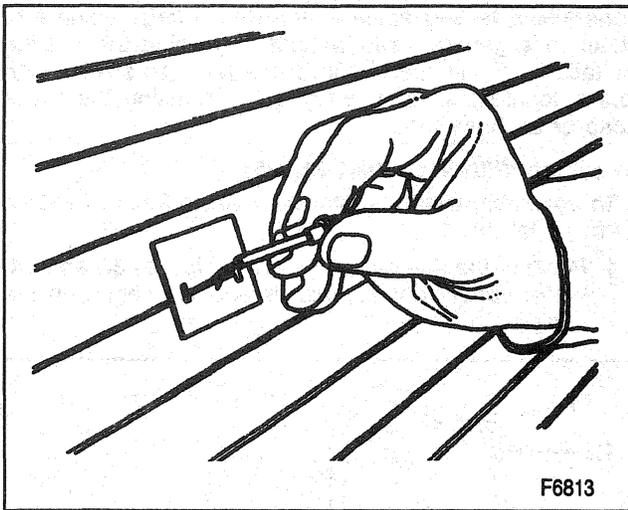

Figure 29—Apply Grid Material to a Broken Grid Line
2. The grid repair material at room temperature to the repair area using a small brush (Figure 29).